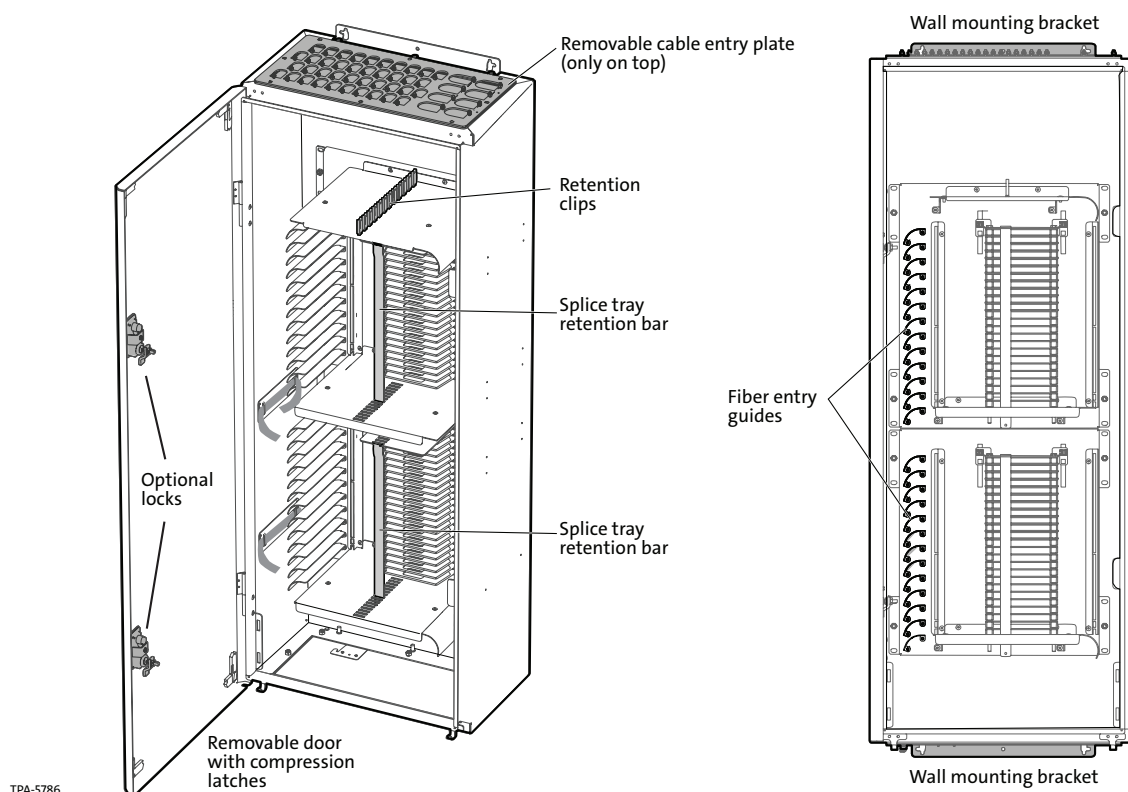

Figure 1
- Ultra-density optical splice enclosure (OSE-UD0-00-3-L) (Figure 1)